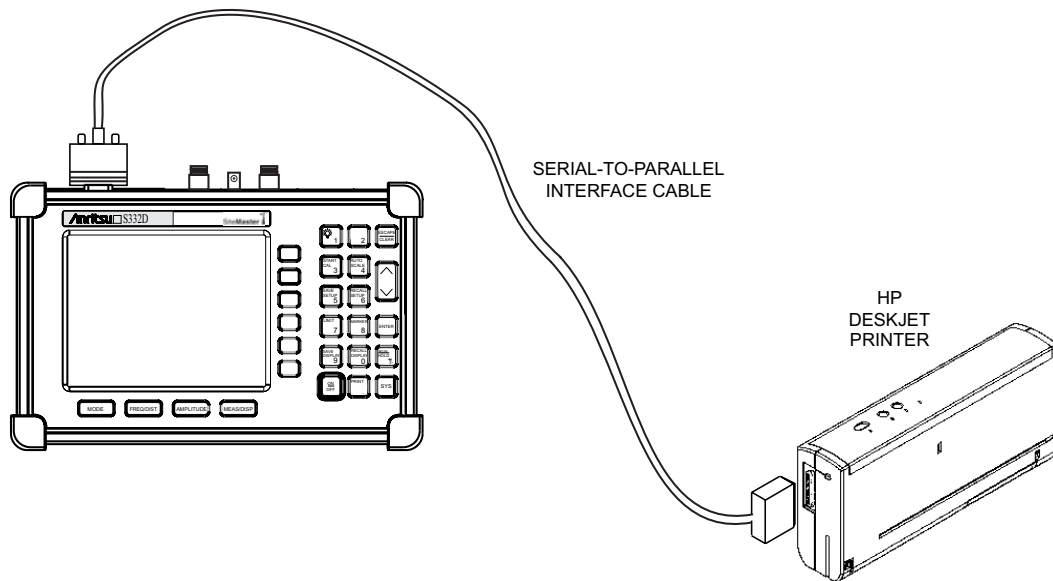

Figure 2-19. Printer Setup
Figure 2-19 shows a setup diagram for two types of printers. Refer to the printer manual for setup details.
Step 1. Connect the printer as shown in Figure 2-19.
- Step 1.** Connect the printer as shown in Figure 2-19.